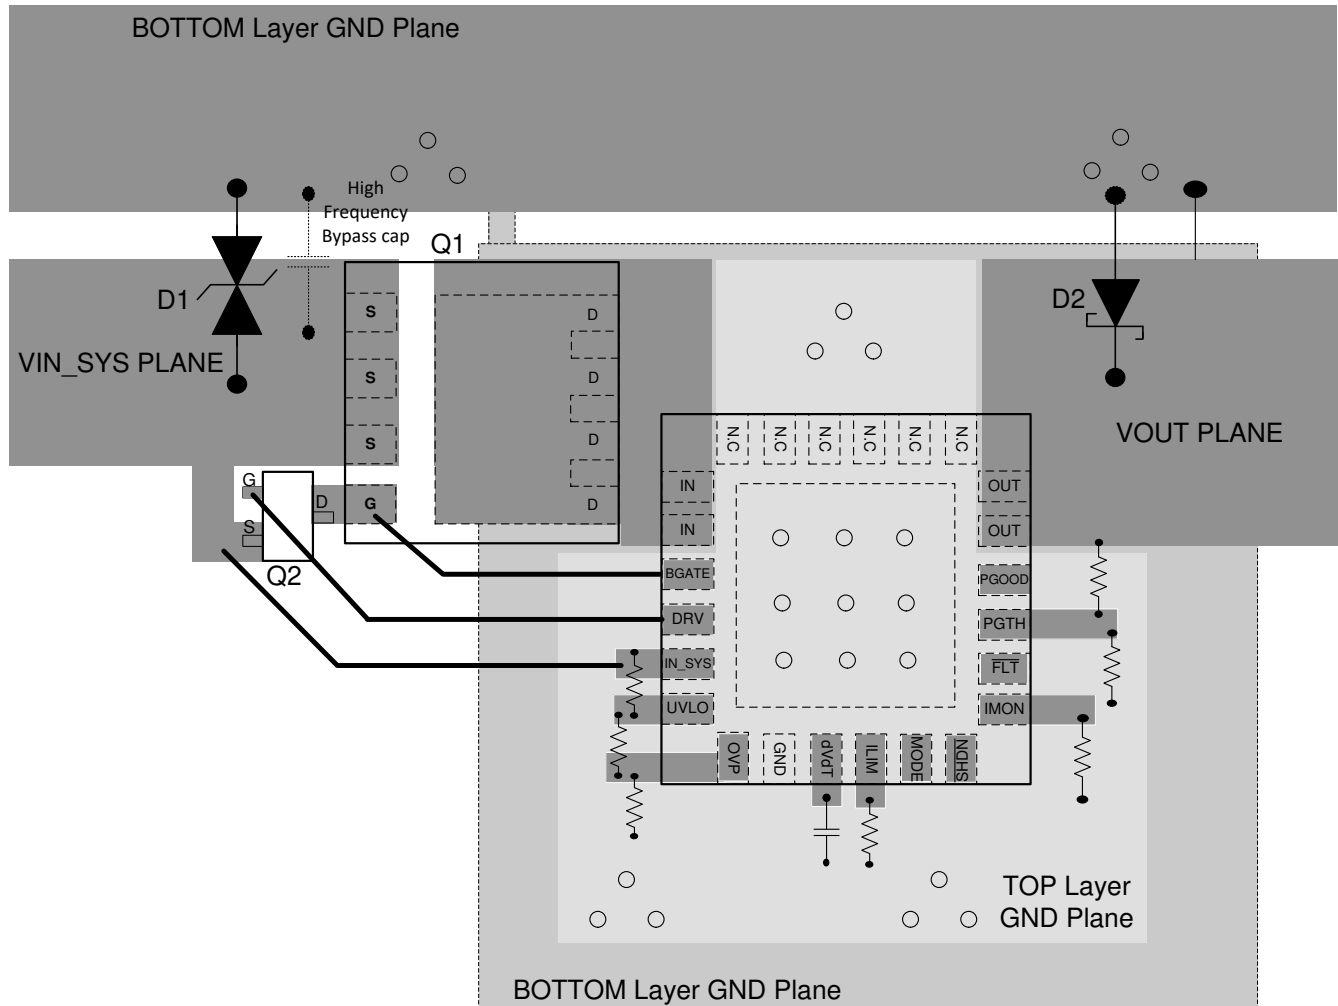
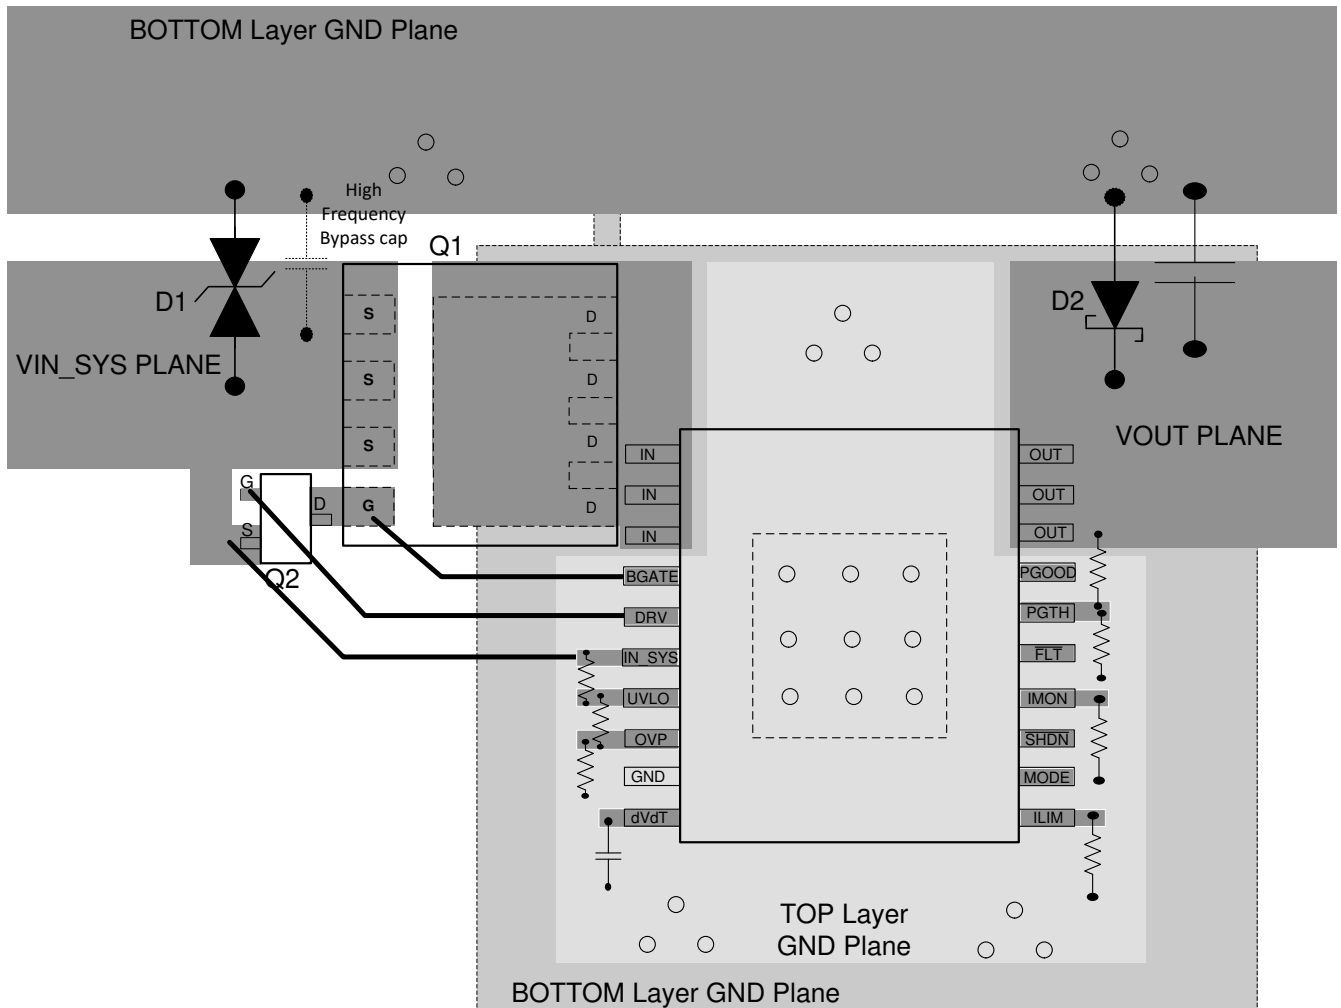

图 12-1. Typical PCB Layout Example With QFN Package With a 2 Layer PCB
图 12-2. Typical PCB Layout Example With HTSSOP Package With a 2 Layer PCB
- The external FET Q1 should be placed with DRAIN close to the V_{IN} pins of the IC and connected through a plane. The fast pull down switch Q2 DRAIN and SOURCE should be placed very close to the GATE and SOURCE terminals of Q1 with very short loop. See Figure 12-1 and Figure 12-2 for a typical PCB layout example.